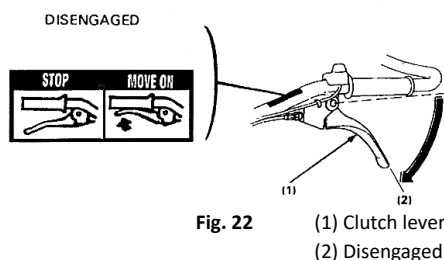

Fig. 22
- 1) Release the clutch lever to the DISENGAGED position and shift lever to the neutral position. (Fig. 22)